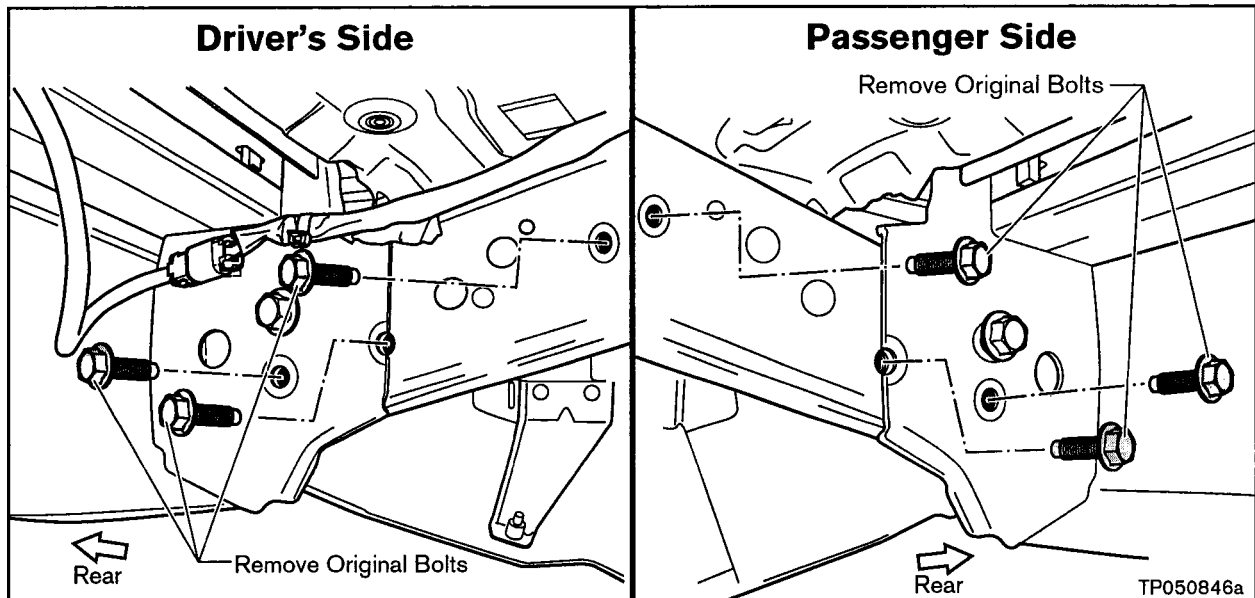

Figure B3
4. Remove six Bolts from the Frame as shown in Figure B3.